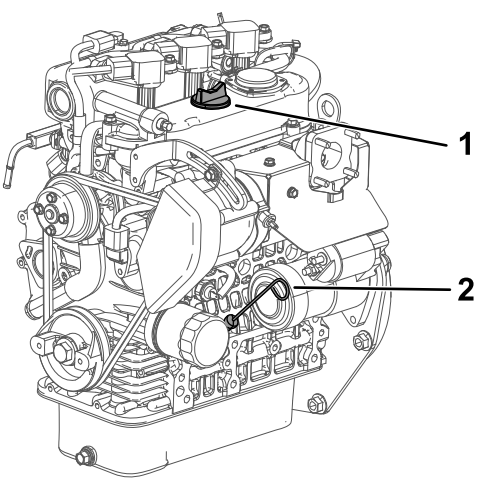

Figure 35
4. Remove the dipstick and wipe it with a clean rag (Figure 35).
5. Insert the dipstick into the tube and ensure that it seats fully (Figure 35).
6. Remove dipstick and check the oil level (Figure 35).
7. If the oil level is low, remove the filler cap (Figure 35), and add enough oil to raise the level to the Full mark on the dipstick.
8. Install the dipstick firmly in place (Figure 35).